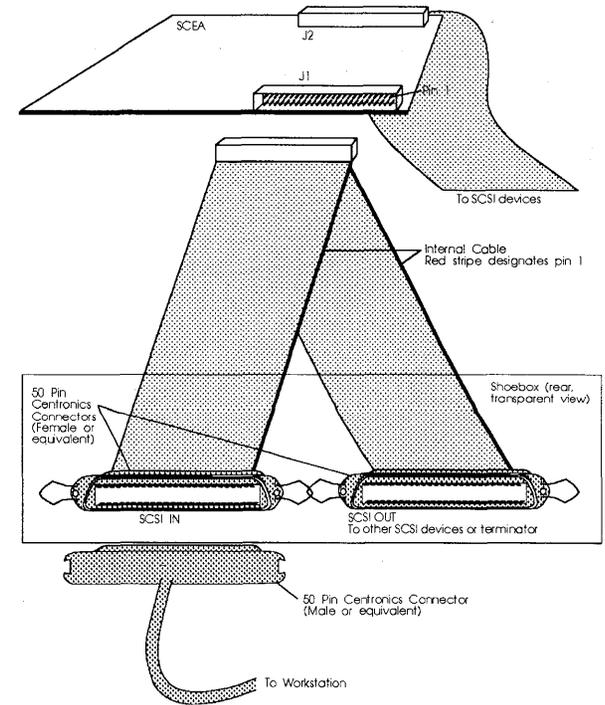

Figure 2: Shoebox J1 SCSI connection
**cable and pin 1 of the SCEA must align.** If the SCEA is inside a storage box or shoebox, the cable connection will be similar to that shown in Figure 2.